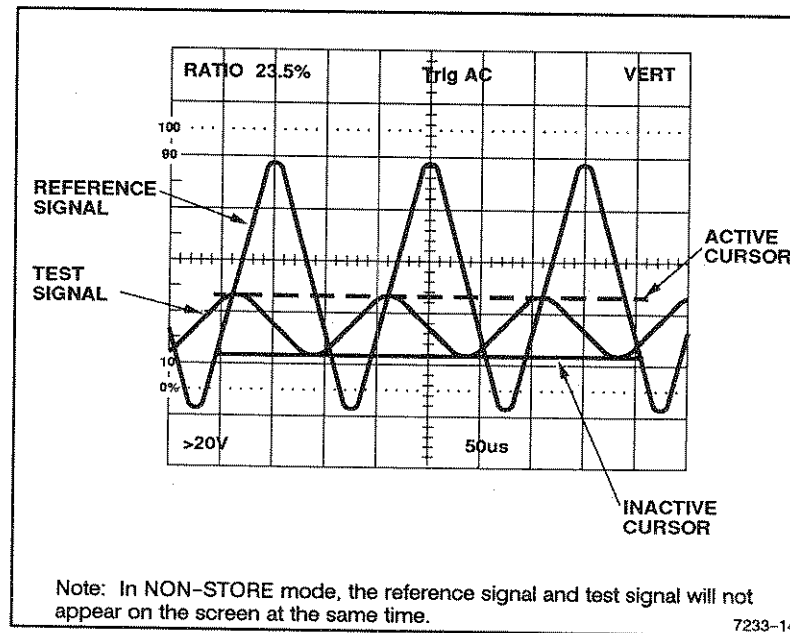

Figure 6-2. Voltage ratios.
8. Align one cursor with the top of the waveform and the other cursor with the bottom of the waveform (see Figure 6-2).